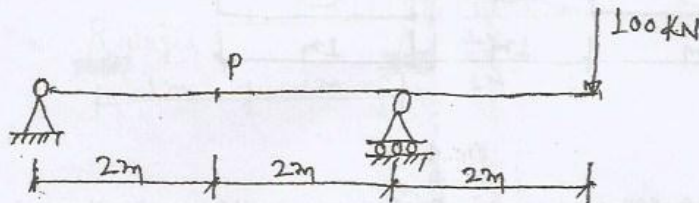

Fig. 3
16. a) Sketch the bending stress distribution in the beam shown in Fig. 3, at a section where maximum value of the bending moment of stress in the beam. Take the beam section as 150 mm wide and 300 mm deep. (5+5+5)